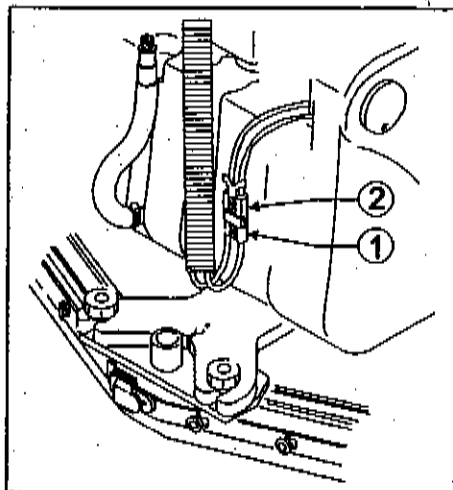
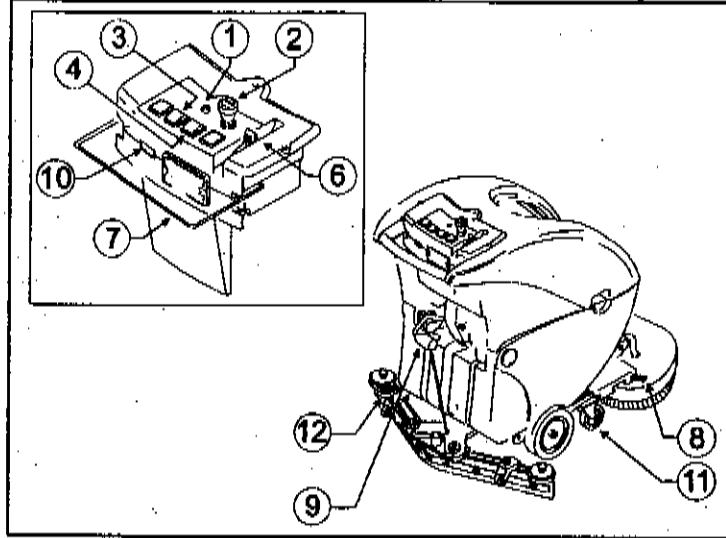
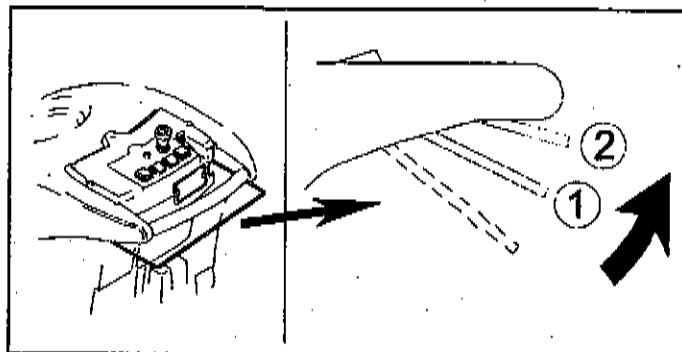

Fig. 4
Fig. 6
Fig. 8
- 2) disconnect the Anderson connector (fig. 4, ref. 2) of the battery wiring from the corresponding Anderson connector (fig. 4, ref. 1) of the main wiring;
- 8) after having checked that all switches on the control panel are at the position "0" (off), connect the battery wiring connector (fig. 4, ref. 2) to the machine wiring connector (fig. 4, ref. 1);
With reference to fig. 6 the machine has the following controls and leds:
- Insert the key to release the emergency button (fig. 6, ref. 2);
- under the handgrip there is a lever (fig. 6, ref. 7): by pulling it up, the motor gets started and the machine starts moving;
- once you have reached the desired spot, lower the head by pushing down the release pedal (fig. 6, ref. 12).
The machine is provided with two speeds of travel depending on whether the drive lever (fig. 6, ref. 7) is pressed upwards slightly (fig. 8, ref. 1) or completely (fig. 8, ref. 2).
Before disassembling the brushes, stop the machine, lift the head and wait until the brushes are still. Press "0" on the brush switch (fig. 6, ref. 3); press the emergency button (fig. 6, ref. 2) and disconnect the battery connector (fig. 4, ref. 2).
- lower the head using the proper pedal (fig. 6, ref. 12);
- check that the cock control lever (fig. 6, ref. 6) is at the position "off";
- insert and operate the key to release the emergency button (fig. 6, ref. 2), and make all the machine functions active: the power supply led lights up (fig. 6, ref. 1);
- move the cock lever (fig. 6, ref. 6) to the position of minimum flow of solution: the detergent solution begins to reach the brushes;
- lower the squeegee by means of the proper lever (fig. 6, ref. 9);
- press "1" on the brush switch (fig. 6, ref. 3) to enable the function "Brush": the brush motor is started. The turning brushes spread the solution all over the floor;
- press "1" on the suction unit switch (fig. 6, ref. 4) to start the suction motor;
- press the drive lever (fig. 6, ref. 7) placed under the handgrip: the drive motor is started and the machine starts moving forward;
- should it be necessary, reduce the brush-head pressure exercised on the floor acting on the pressure lever (fig. 6, ref. 8) (see label attached next to the lever);
- while working, check the quality of washing and, if necessary, adjust the flow of solution sent to the brushes (by turning the lever (fig. 6, ref. 6)).
- if the warning led (fig. 6, ref. 1) starts flashing, it means that the storage batteries are getting flat. Therefore, it is necessary to recharge them, as there is no device blocking the total running of the machine; if you keep on working, the batteries could become damaged irreparably.